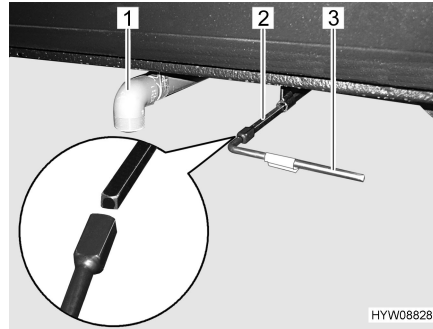

Fig. 76 Operating lever and drain pipe of the waste water tank
- Place the drain pipe (Fig. 76,1) directly above the disposal station or attach the waste water hose (special equipment) onto the drain pipe (Fig. 76,1).
- Open the drain cock. To do this, attach the supplied square spanner (Fig. 76,3) onto the square of the drain cock (Fig. 76,2).
- To do this, turn the square spanner (Fig. 76,3) a quarter turn anticlockwise. The waste water is drained.
- After the waste water has drained off: Close the drain cock again. To do this, turn the square spanner (Fig. 76,3) a quarter turn clockwise.
- Remove the square spanner (Fig. 76,3) and store it.